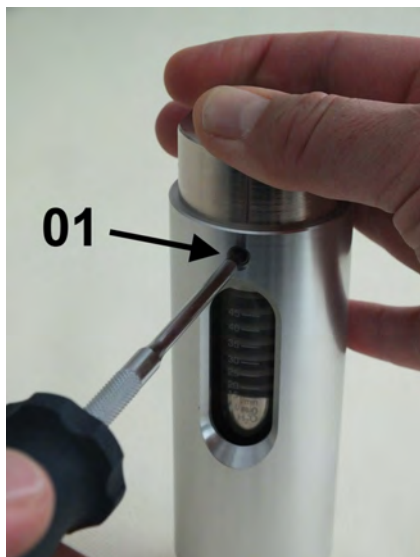

Fig. 52: Tighten hex socket screws
- 14.** ▶ Tighten the 3 hex head screws (Fig. 52/01), observing the proper torque ( Chapter 11.1 "Tightening torque of screws" on page 80)